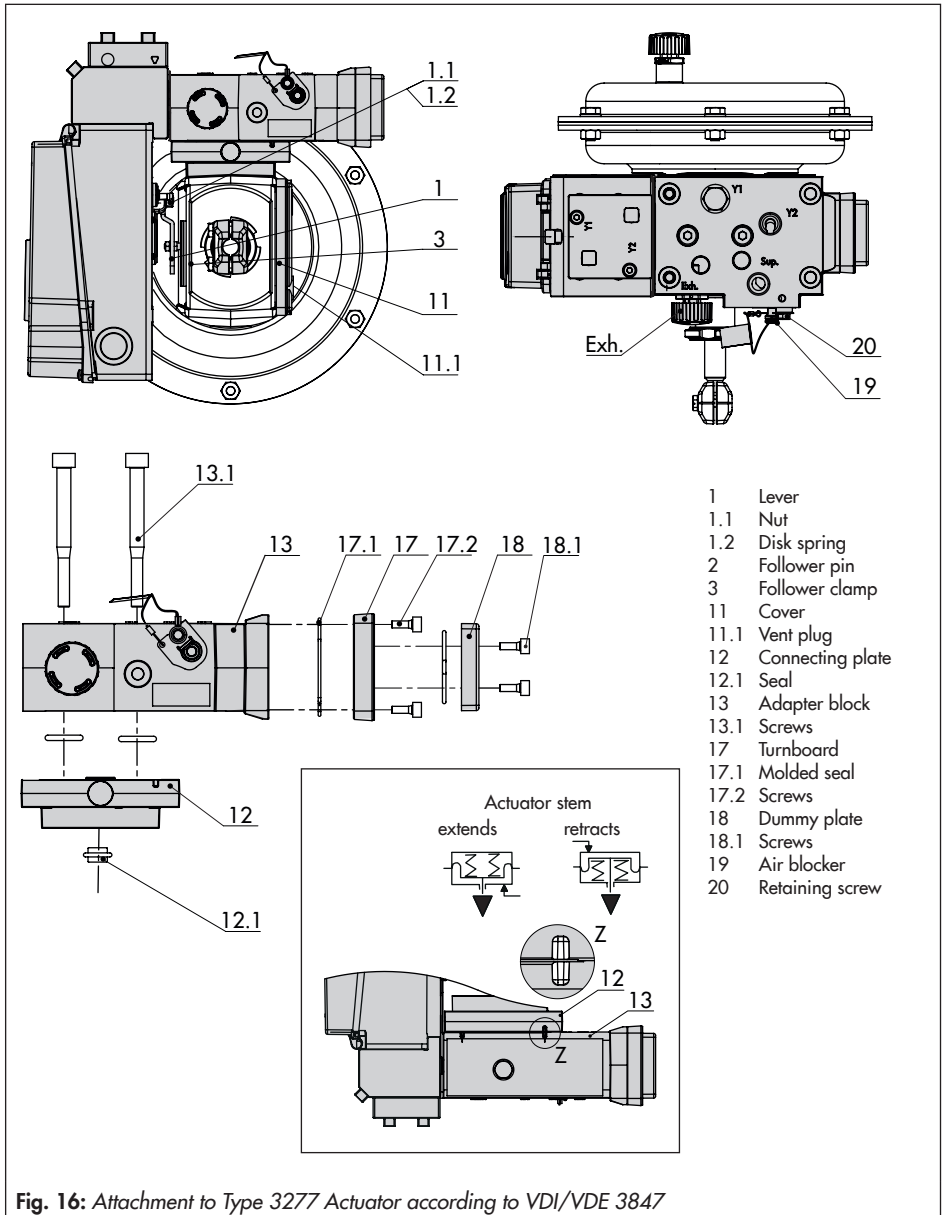

Fig. 16: Attachment to Type 3277 Actuator according to VDI/VDE 3847
Mount the positioner on the yoke as shown in Fig. 16. The signal pressure is routed to the actuator over the connecting plate (12), for actuators with fail-safe action "actuator stem extends" internally through a bore in the valve yoke and for "actuator stem retracts" through external piping.